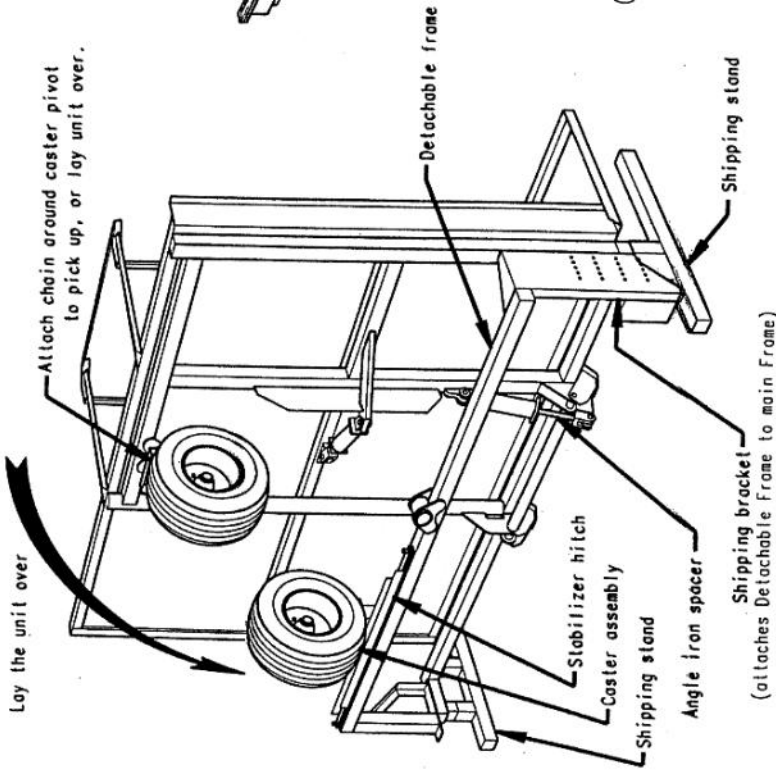

Figure 1
2. Attach a chain or heavy duty lifting strap around the top Caster, as shown in Figure 1 above. Using a front-end loader or fork lift, lay the accumulator over, so that it rests on the two shipping stands and the one Caster.
7. Remove the angle iron spacer, fig. 1, from the hydraulic cylinder, which operates the Push-over Arm, and cut the banding strap which is holding the Push-over Arm in place, fig. 2.